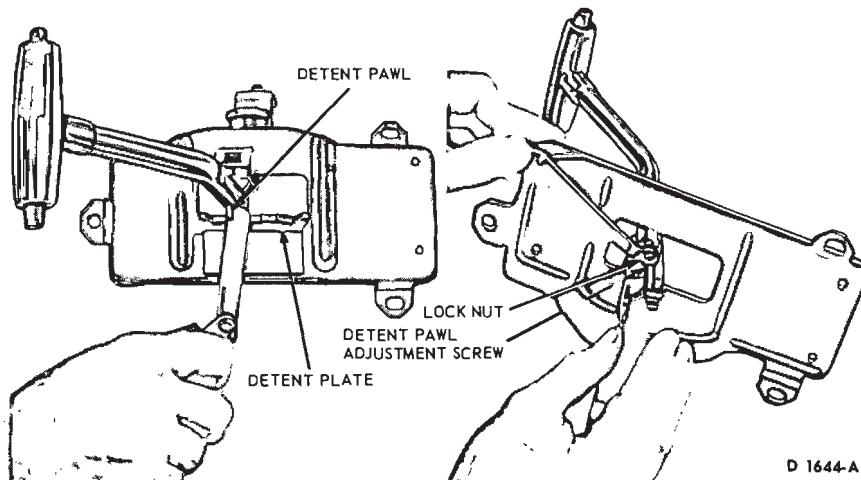

FIG. 17—Typical Selector Lever Detent Pawl Adjustment
13. Position the selector lever as shown in Figure 17. With a feeler gauge, check the clearance between the detent pawl and plate. The clearance should be 0.005 to 0.010 inch. If necessary adjust the height of the detent pawl as shown in Figure 17.
10. Position the selector lever as shown in Figure 17. With a feeler gauge check the clearance between the detent pawl and plate. The clearance should be 0.005 to 0.010 inch. If necessary adjust the height of the detent pawl as shown in Figure 17.